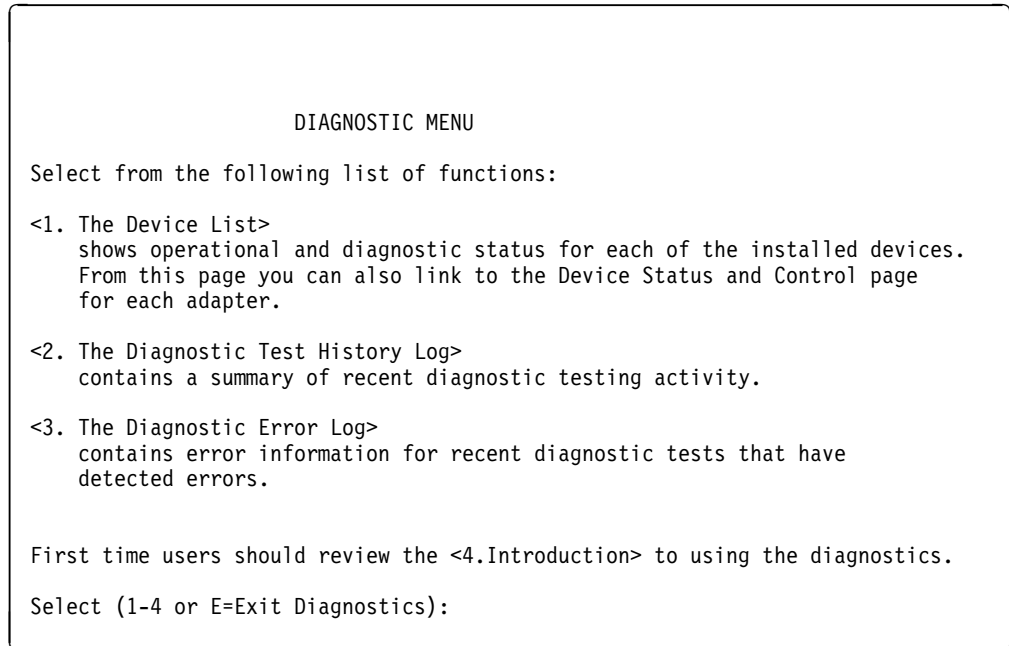

Figure 5-3. Operational Diagnostics Main Menu
- 2** The Diagnostic Menu appears (Figure 5-3 on page 5-5). To make your selection, type in the number of your choice and press **Enter**.